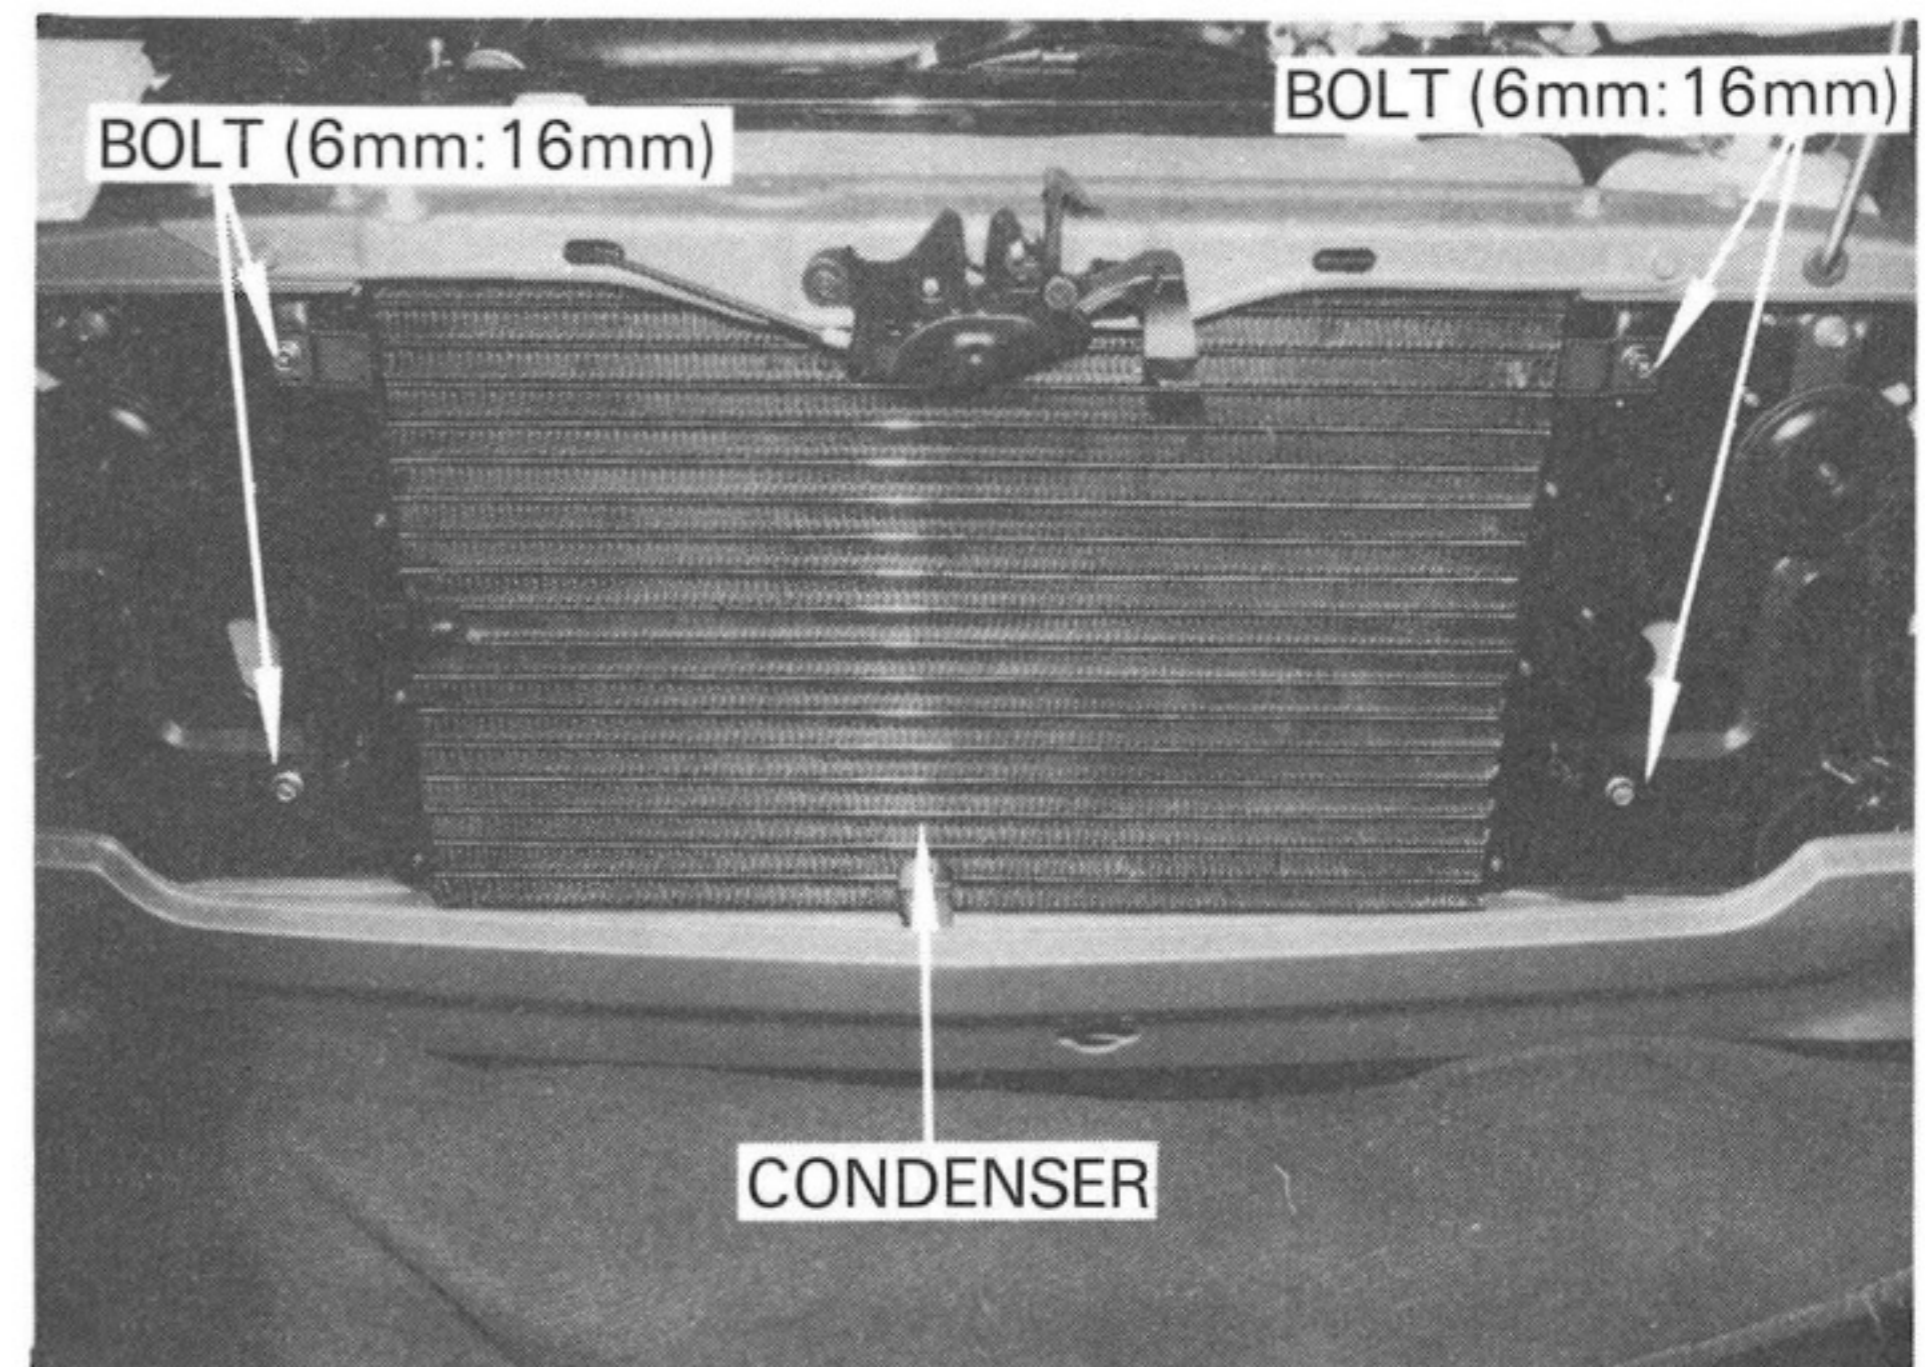

Fig. 2-10
- A) Install the condenser using four bolts in the kit on the radiator side baffle where threaded holes are provided. See Fig. 2-10.